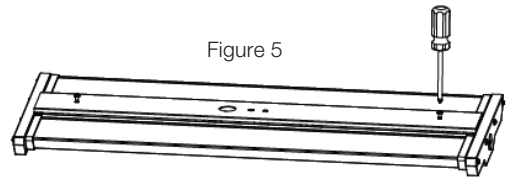

Figure 5
**STEP 1:** Open the cover with a screw driver (Figure 5).